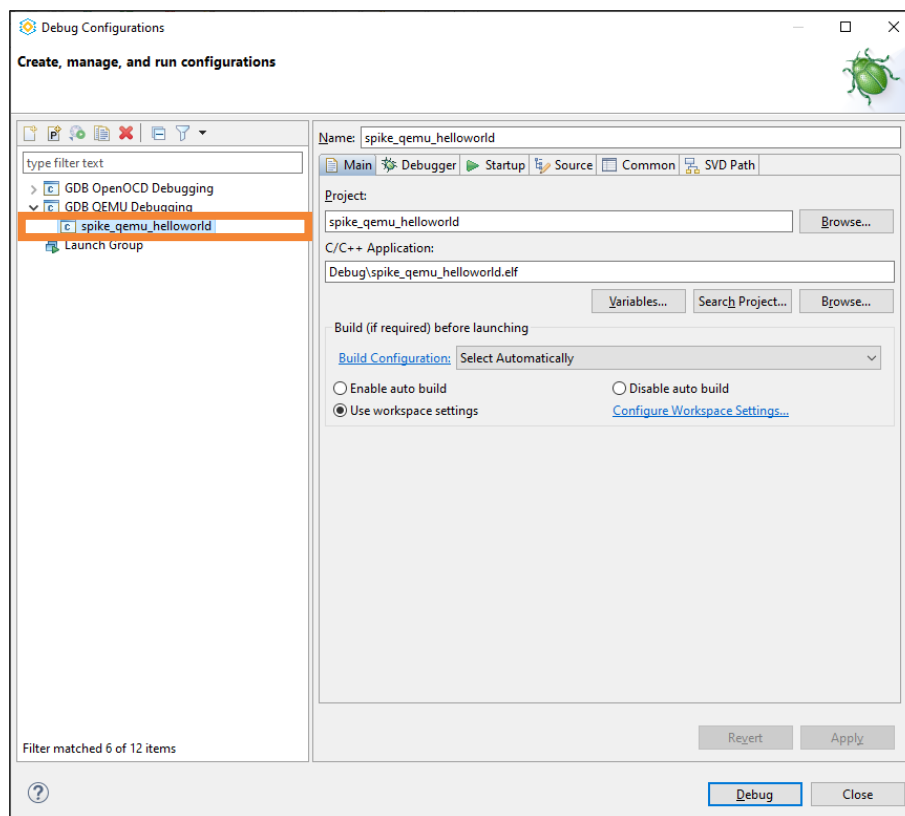

Figure 8.3. Debug Configurations Dialog 4
2. Choose spike\_qemu\_helloworld in **GDB QEMU Debugging** (Figure 8.3).